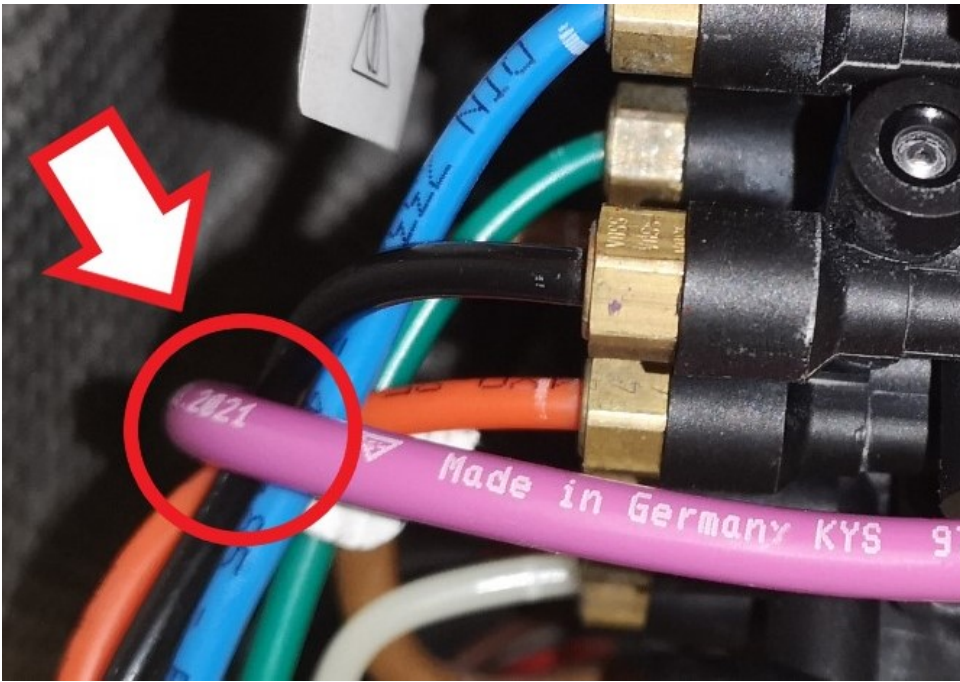

Figure 22
- Referring to Figure 22 - The pink air line routing **IS NOT CORRECT**